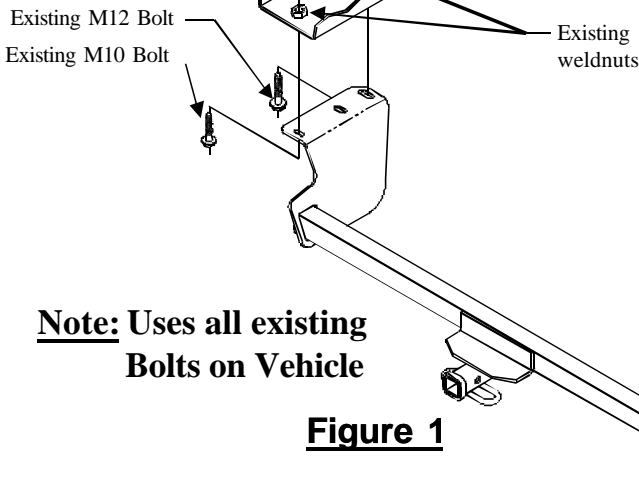

Figure 1
- Raise hitch into position as shown in Figure 1 and attach with existing bolts removed in step 2. Hand tighten.